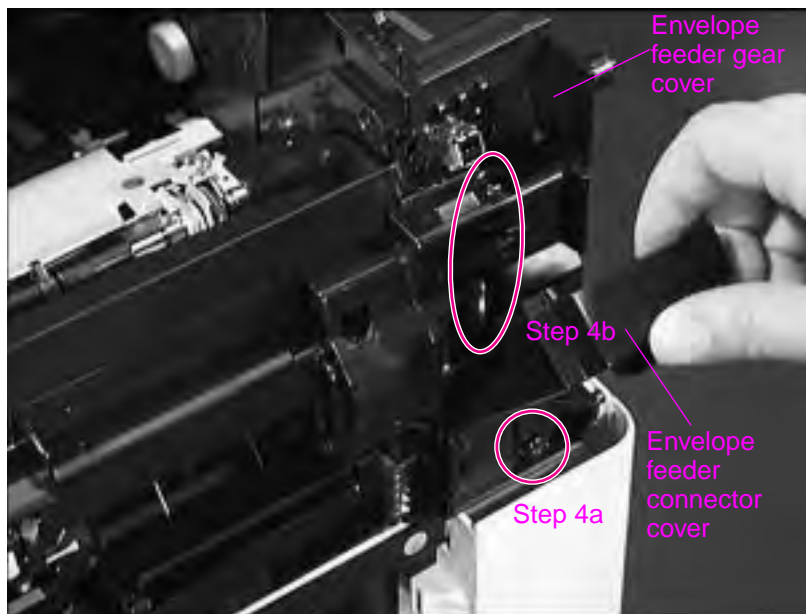
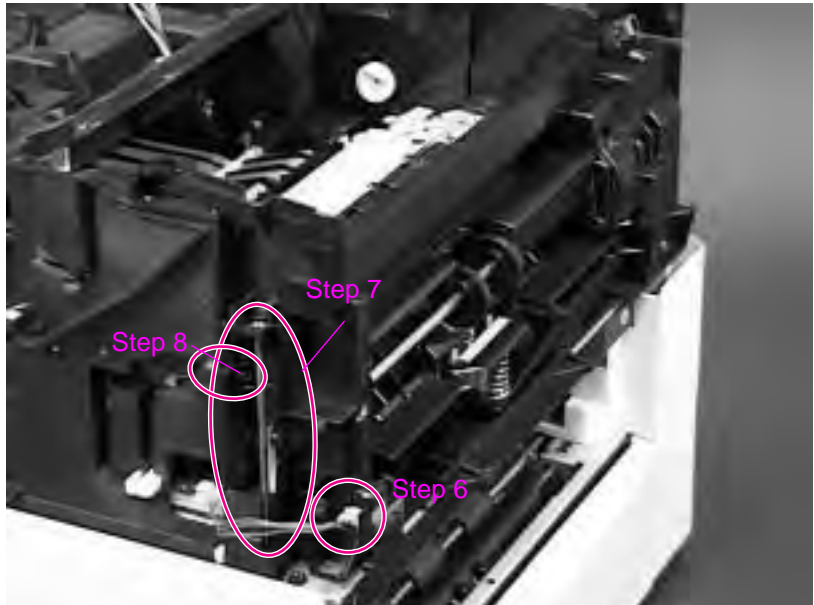

Figure 6-26
Figure 6-28 Removing the Tray 1 Pickup Assembly – Left Side
- 1 Remove the Rear Right Side cover (page 6-6). Remove the Formatter Cage Assembly (page 6-20), Formatter Pan (page 6-39), and 2 long screws from the Tray 1 Pickup Assembly (See Figure 6-26 on page 6-29 and Figure 6-28 on page 6-31).